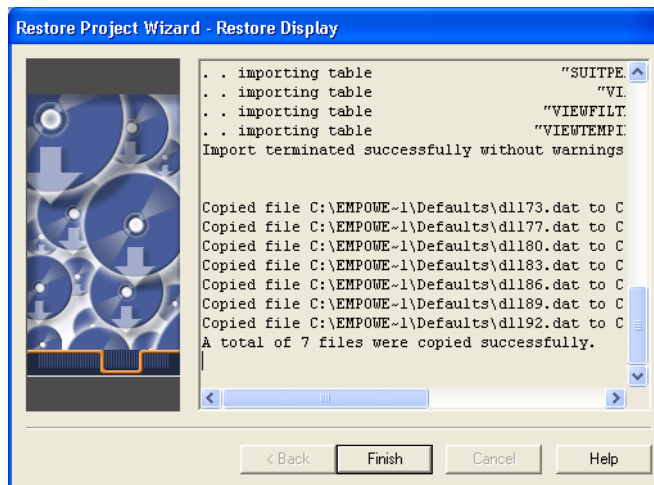

Figure 8-7 Restore Project Wizard–Restore Display Page
4. The data fields display information associated with the project that was restored. Only the **Project Name** and **Tablespace Details** fields can be changed, as necessary. Make any appropriate changes, then click **Next**. The Restore Display page appears (Figure 8-7).